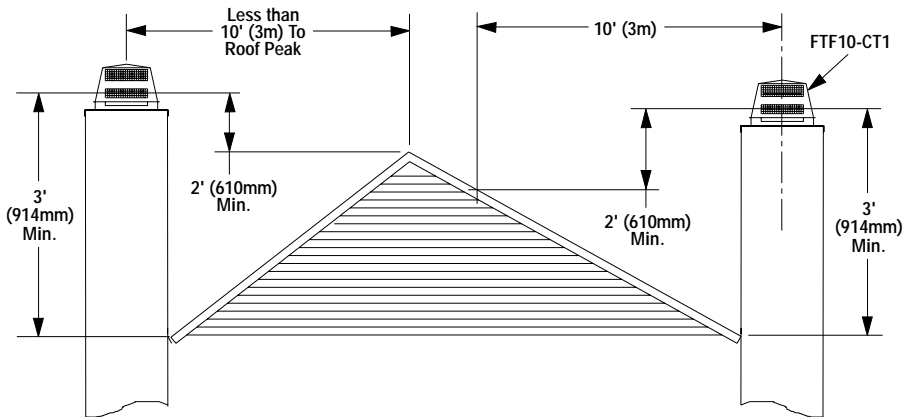

Figure 6
6. Figure 6 illustrates the correct height of your chimney top. It is unlikely that your installation does not adhere to the installation instructions. However, if not correct, you could experience an unusual downdraft. Usually, the best solution is to increase the chimney height. This may also be necessary if nearby trees, adjoining roof lines or a hill is causing a downdraft condition.